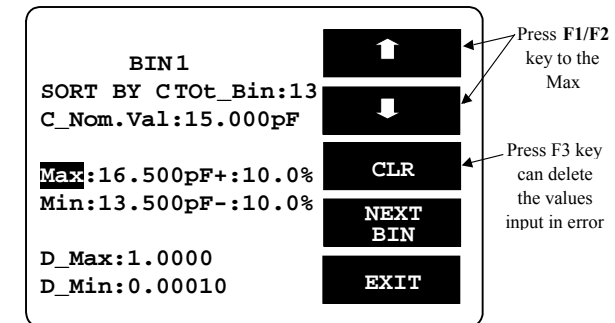

Figure 8-17
- Press  key. Please refer to Figure 8-17 below.